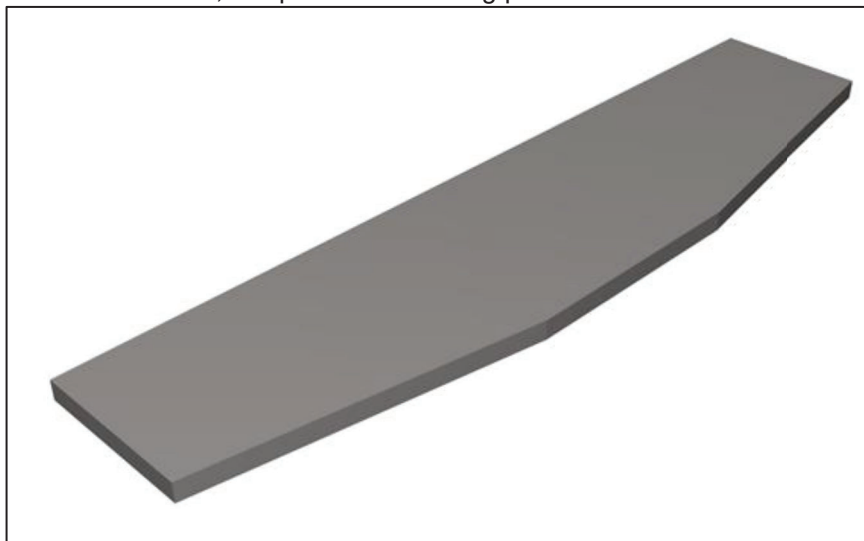

Figure 1 Spade profiled Lip Plate
2.1.1. Profile cut lip plate from Hardox 400 or 450 Q/T or equivalent Steel to the dimensions specified in layout drawing. Refer Figure 1.